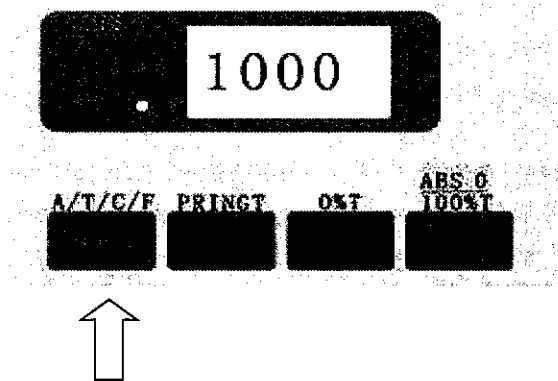

Fig.1-14
- a. Press **MODE** to set it at F mode. (Fig.1-14)